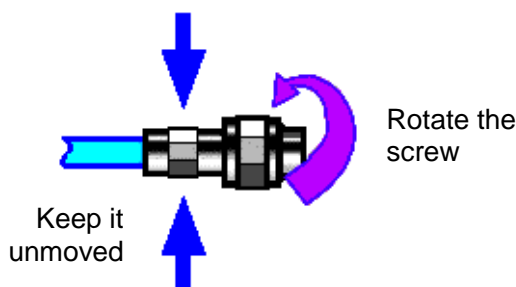

Fig. 2.4 Connection
**Step 2.** As shown in Fig. 2.4, move both connectors straight together, so that they can be connected smoothly; rotate the threaded sleeve of connector (rather than the connector itself) until it is tightened; during connection, there can be no relative rotary motion both connectors;